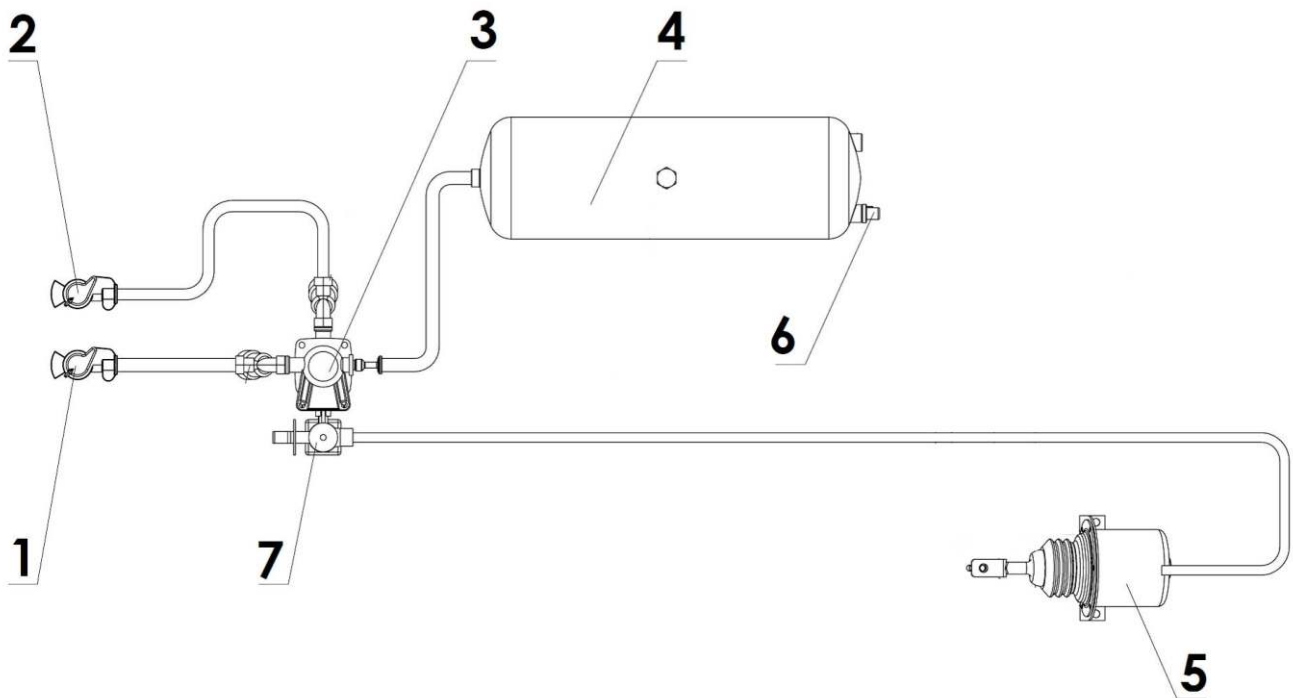

Fig. 9 Diagram of the pneumatic double-circuit braking installation.
The braking force regulator found in the pneumatic system (item 9 fig. 9) is controlled manually. Depending on the load of the trailer with cargo, the control lever must be set in one of three positions: